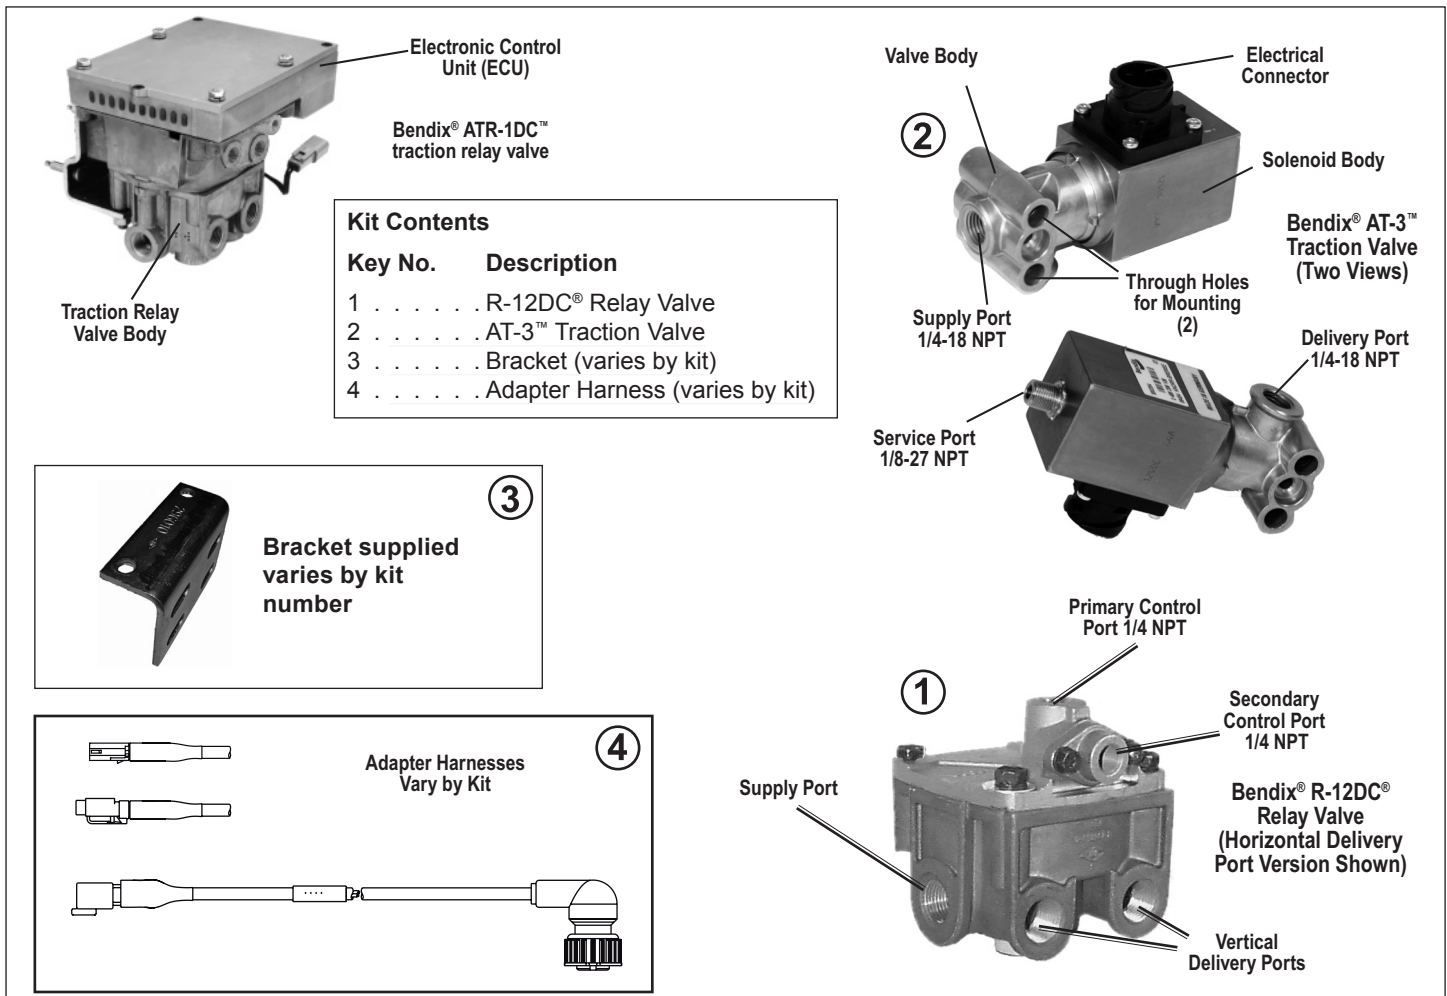

FIGURE 1 - BENDIX® ATR-6™ TRACTION RELAY VALVE (WITH EXPLODED VIEW)
5. Remove the mounting hardware bolts and then remove the Electronic Control Unit (ECU) from the valve. (See Figure 1).